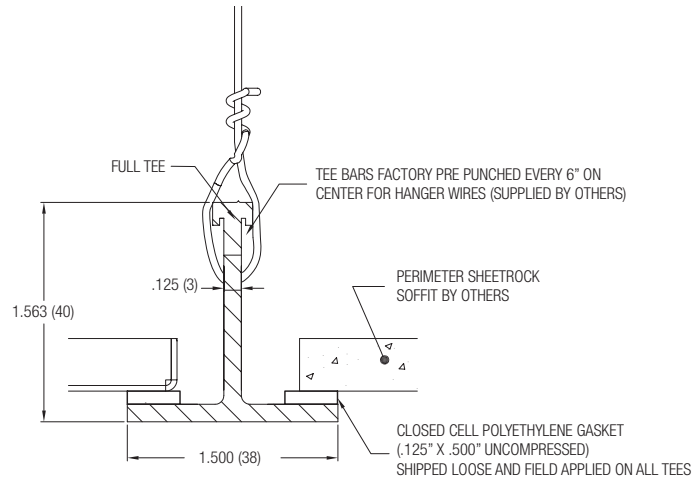

Figure 19. Perimeter Installation Detail
Step 15A: Pull down the perimeter modules to tension the wires, and adjust the wire to minimize settling and movement of the grid once the diffusers, panels and lights are installed. Ensure that they are tight to the drywall (if installed), and/or at the correct height and there is no slack in the hanger wires. A sample perimeter installation detail is shown in **Figure 19**.